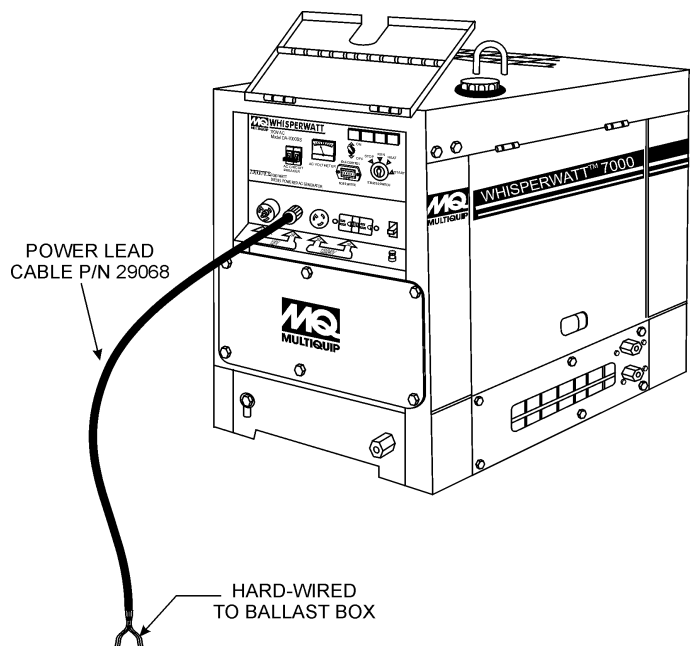

Figure 14. Power cable Connection
1. Plug the connector end of the attached power cable into the 120 VAC twist-lock output receptacle on the generator/welder (Figure 14). This cable provides 120 VAC power to the ballast box located near the trailer tongue.